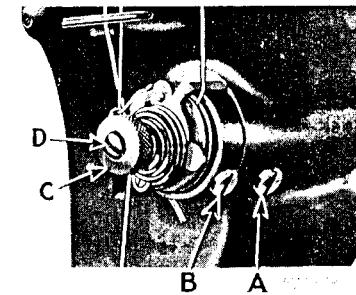

Fig. 21. Adjustment of the Thread Controller
The tension on the needle thread should **only** be regulated when the presser foot is down. Having lowered the presser foot, turn the thumb nut (C, Fig. 21) at the front of the tension discs over to the right to increase the tension. To decrease the tension, turn this thumb nut over to the left.
For more controller action on the thread, loosen the set screw (B, Fig. 21) and set the thread controller spring stop lower. For less action, set the thread controller spring stop higher, then securely tighten the set screw (B).
To increase the tension of the thread controller spring on the thread, loosen the tension stud set screw (A, Fig. 21) and turn the tension stud (D, Fig. 21) over to the left with a screwdriver. To decrease the tension, turn the tension stud (D) over to the right, then securely tighten the stud set screw (A).